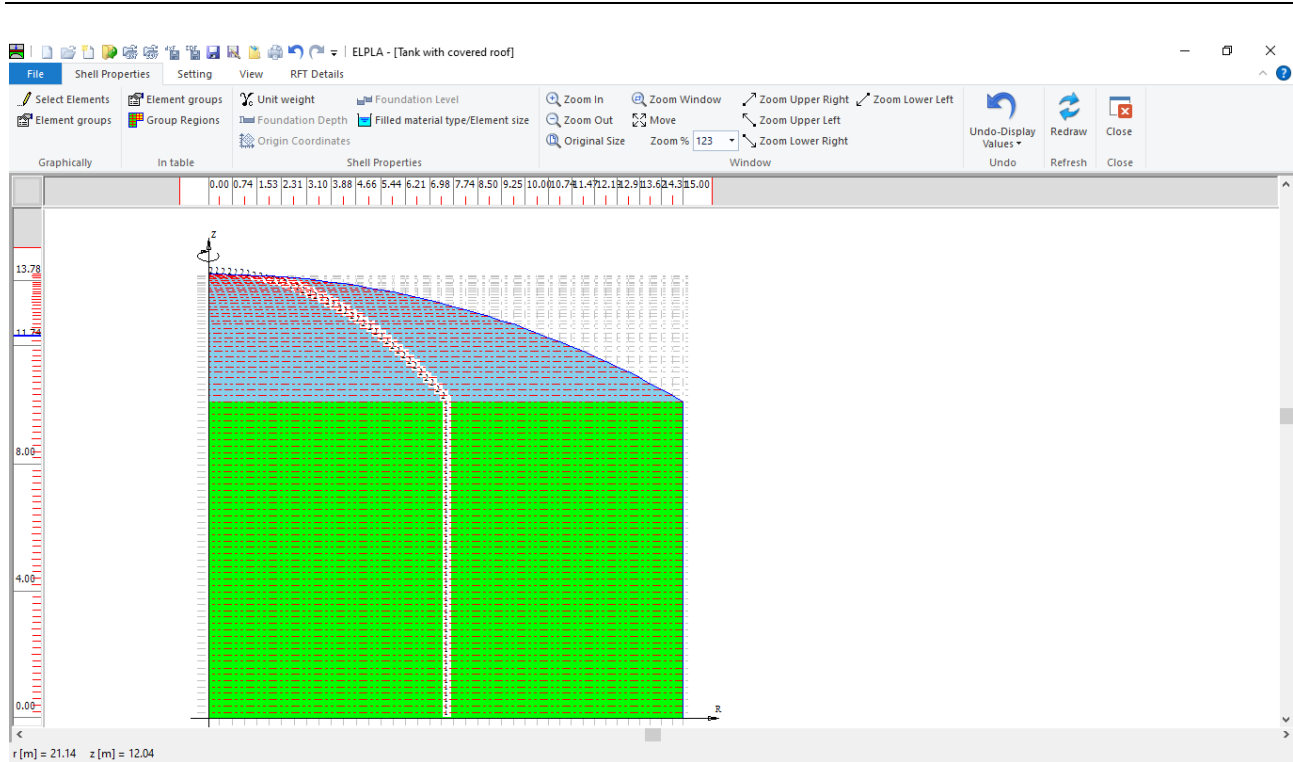

Figure 5.16 "Shell Properties" window after defining the shell data
- Choose "Save" command from "File" menu in Figure 5.16 to save the shell properties
- Choose "Close" command from "File" menu in Figure 5.16 to close the "Shell properties" window and return to *ELPLA* main window